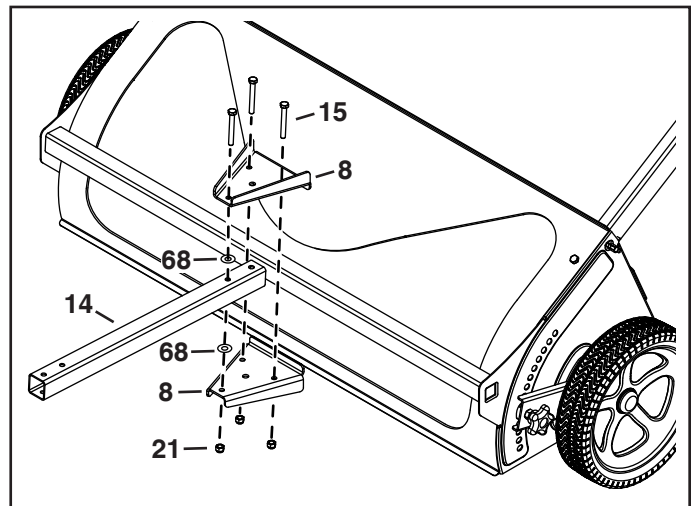

FIGURE 4
STEP 4: (SEE FIGURE 4)
- Attach the drawbar (14) to the sweeper by fastening a drawbar bracket (8) above and below the drawbar using two washers (68), three 5/16" x 2-1/2" hex bolts (15) and 5/16" nylock nuts (21).